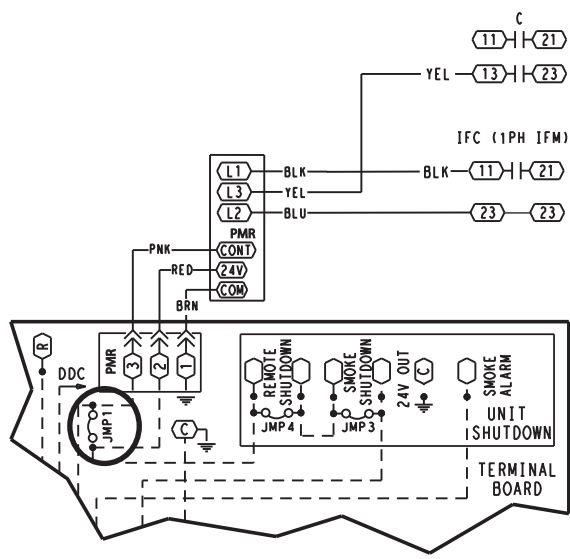

Fig. 7 - Wiring Diagram
On the indoor fan contactor (IFC), connect the black wire to terminal “11” and the blue wire to terminal “23.” On the compressor contactor (C) or (C1), connect the yellow wire to terminal “13.” (See Fig. 7.)